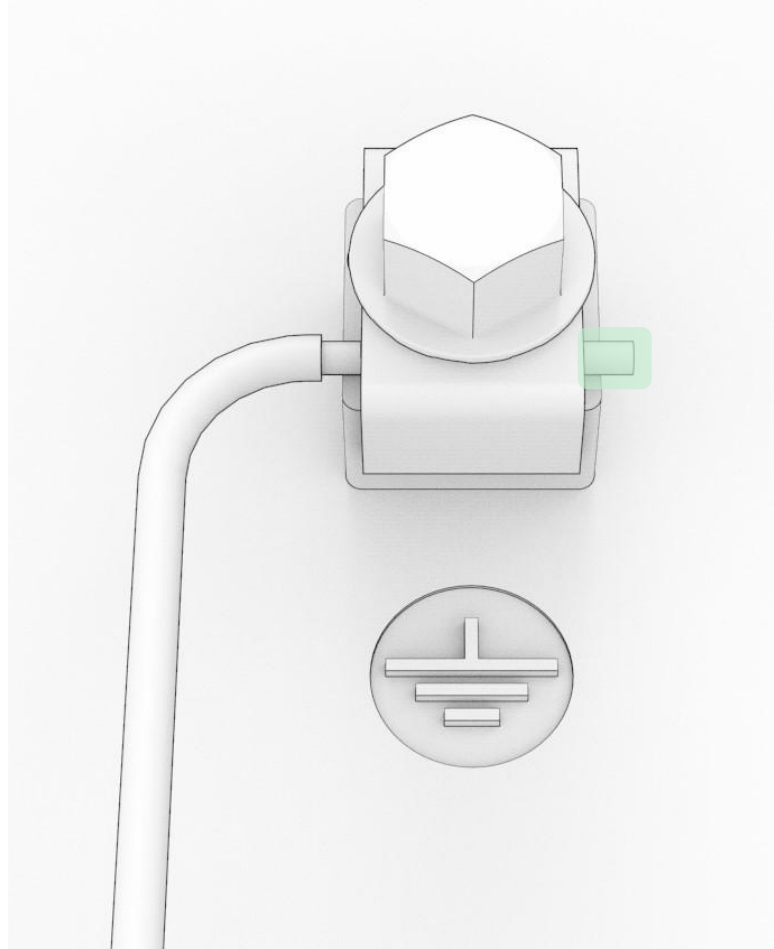

Figure 16
3. Strip the ground wire to $\frac{5}{8}$ " (16mm). Loosen the grounding screw and place the grounding wire between the grounding post and grounding saddle washer. Tighten the screw to 50 in-lb (roughly 6Nm) and ensure the ground cable extends past the saddle washer by $\frac{1}{8}$ " as highlighted in Figure 16. **DO NOT OVERTIGHTEN THE GROUND SCREW.**